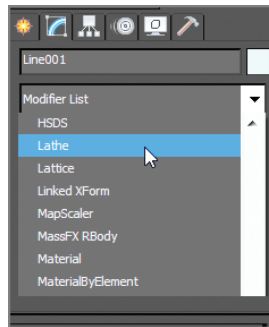

FIGURE 2.29 Choose the lathe modifier from the Modifier List.
7. On the Modify panel, choose Lathe from the Modifier List, as shown in Figure 2.29.